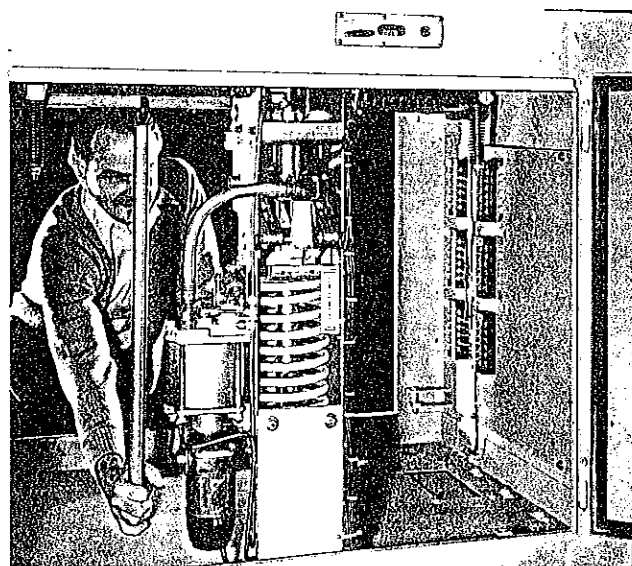

Figure 6
B. Use maintenance-positioning wrench as illustrated, Figure 6.